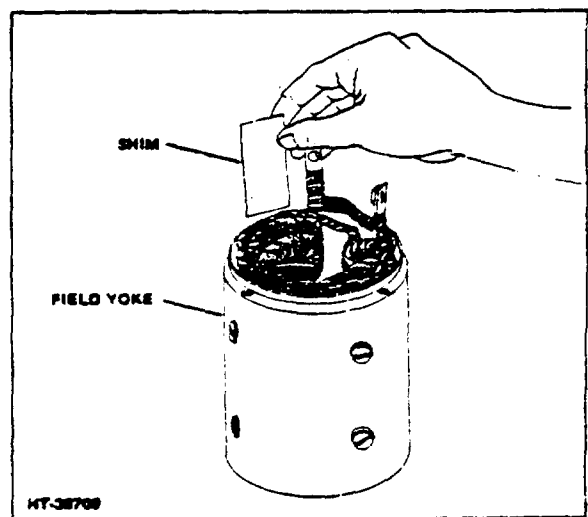

Figure 4-5. Removing Shims
9. To remove field coils remove pole retaining screws and note the quantity of shims behind each pole shoe. (See Fig 4-5.)